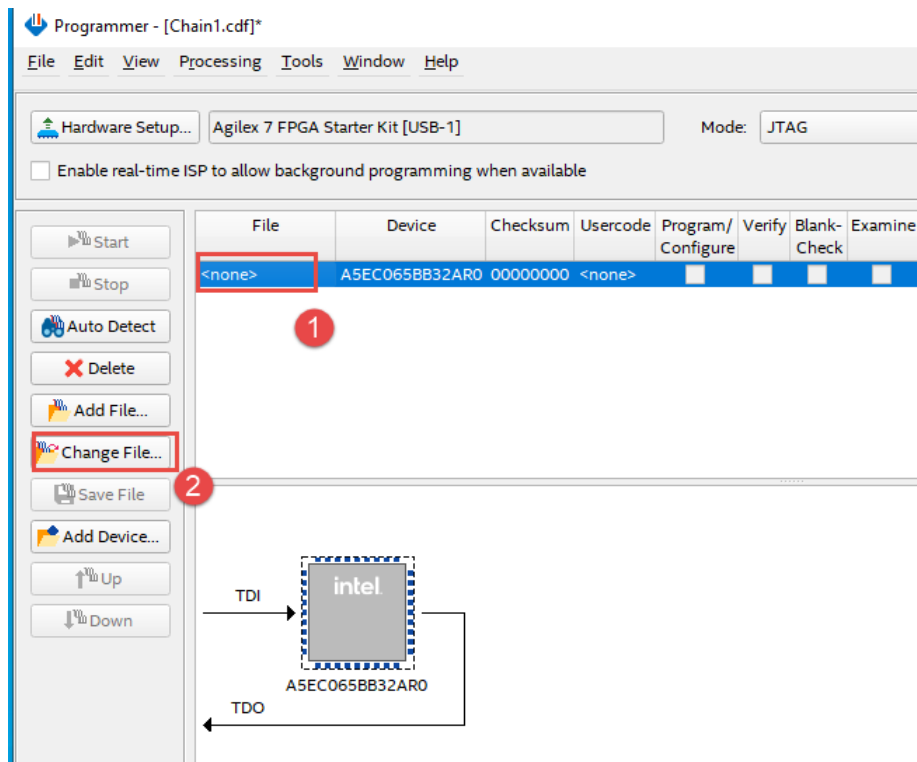

Figure 3-7 Open the .sof file to be programmed into the FPGA device
4. Right click on the FPGA device and open the .sof file to be programmed, as highlighted in **Figure 3-7**.